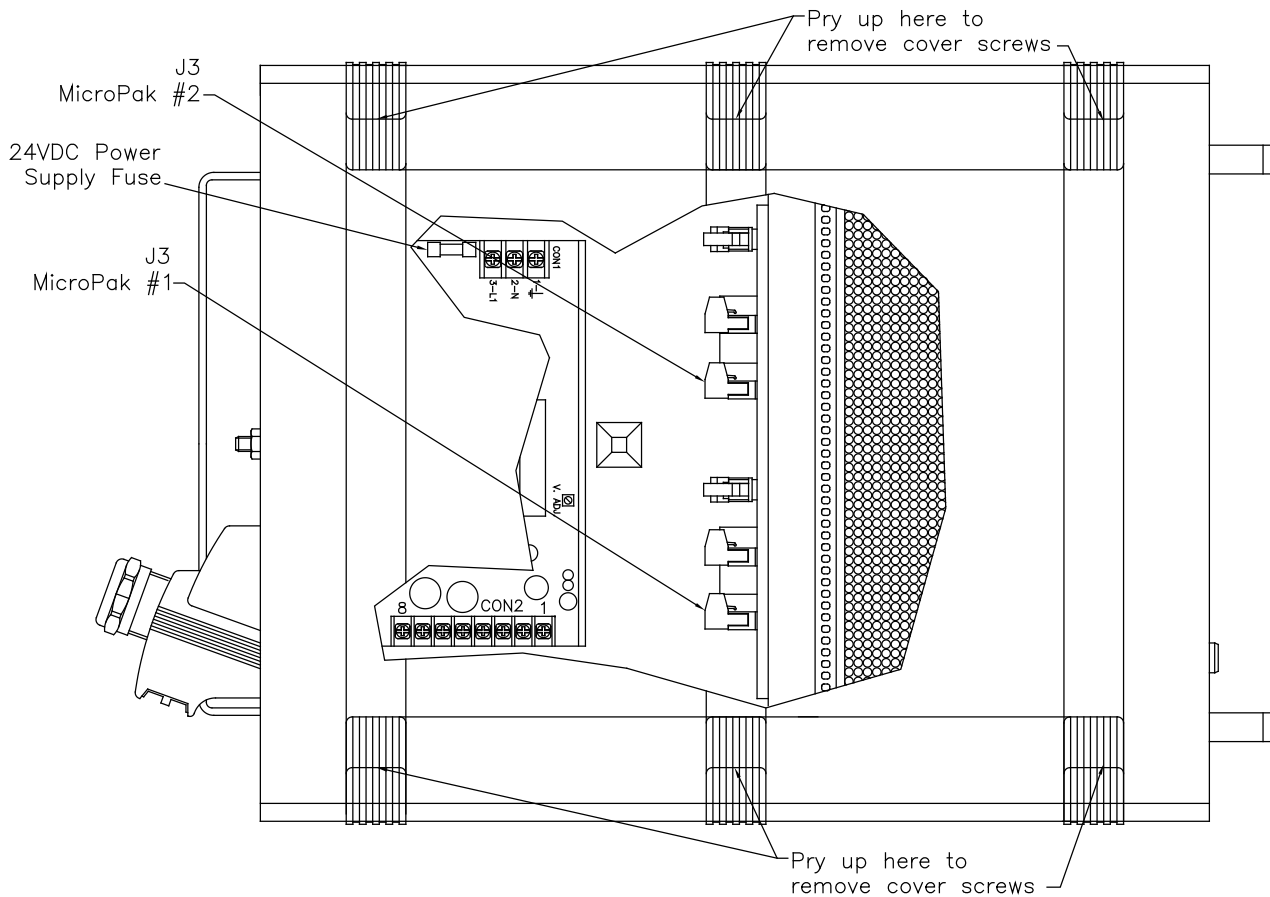

Figure 9: Controller Top View
2. Using a screwdriver, pry open the 6 screw covers on the top panel of the controller, remove the screws, and remove the top panel (see Figure 9).
3. Disconnect connector J3 (see Figure 9) from the rear of the problem MicroPak unit (1 or 2). Leave the other end of the Low Voltage Cable connected to the Evolver Spray Gun.
Fuse of 24VDC power supply is defective.	Check fuse and replace if defective (see Figure 9).
Defective 24VDC power supply.	Voltage across terminals 1 and 8 of connector CON2 (see Figure 9) of 24VDC power supply should be 24VDC. If not, replace 24VDC power supply.
EVOLVER MICROPAK CONTROLLER - PARTS LIST (Figure 9)